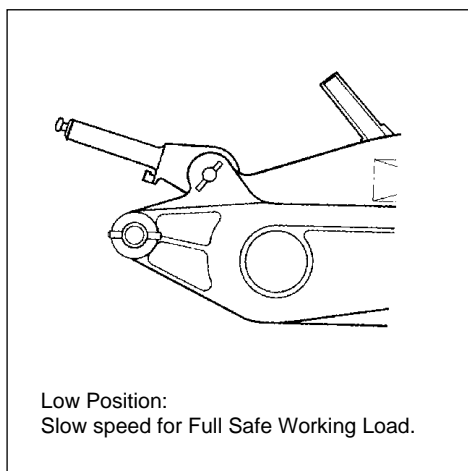

Fig. 13.2
For Slow Speed operation lift the button on the top of the forward operating handle (2) and give the dual speed control pin (5) half a turn clockwise until the pin is securely located in it's new position. (See fig. 13.2)